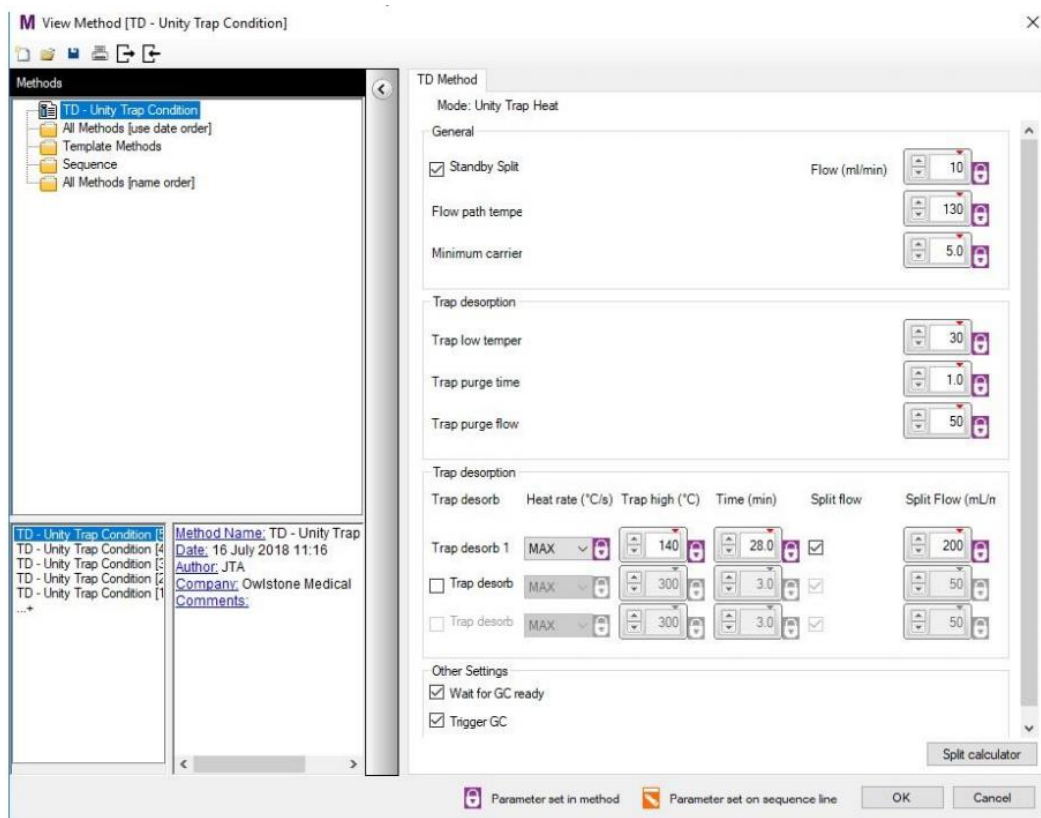

Figure 7. TD method used for CT conditioning.
- 3.4.3 Set and run a sequence using selecting the method “TD-Unity Trap Condition” (Figure 7).